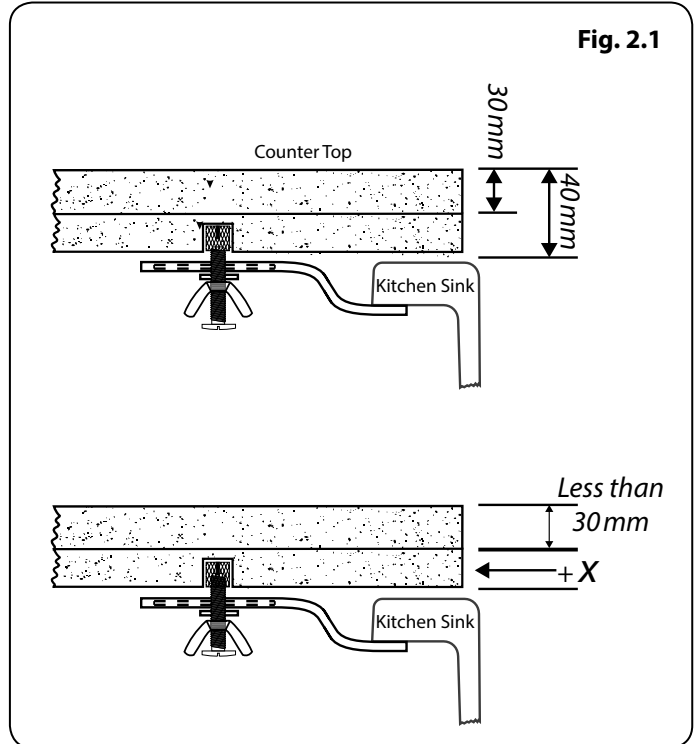

Fig. 2.2
1. Place the sink upside down on the worktop. Position the sink on the worktop as required. Make sure the cabinet framework will clear all parts of the sink. Using a soft, sharp pencil draw around the sink as accurately as possible (**Fig. 2.2**). Remove the sink.